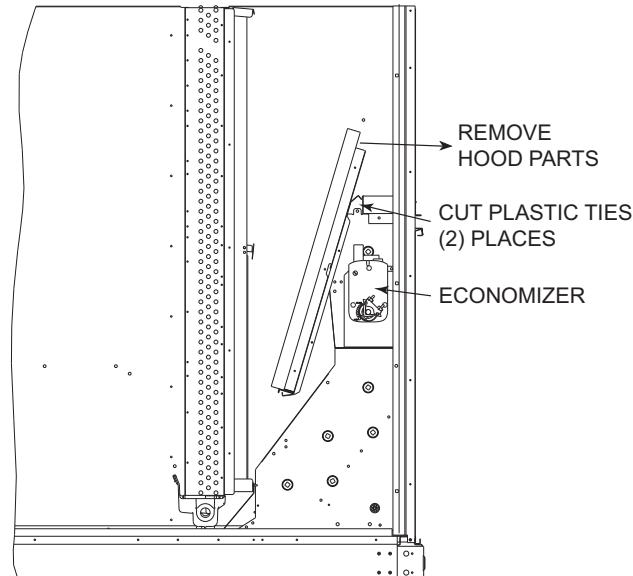

Fig. 14 — Economizer Hood Package Location
Locate the carton containing the outside air hood parts; see Fig. 14. Do not remove carton until unit has been rigged and located in final position.
3. Locate and cut the (2) plastic tie-wraps, being careful to not damage any wiring. (See Fig. 14.)